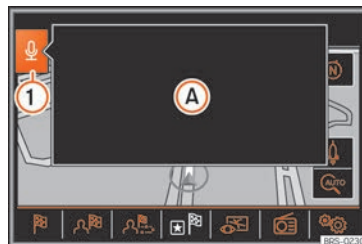

Fig. 181 Voice control: indication of the help menu elements that can be pronounced.
- Speak the commands when the audio and audio signals have finished playing, and the symbol  **Fig. 181 1** is displayed on the screen.
A help menu is displayed with the most important orders in the active mode at the time (e.g. Navigation) »» **Fig. 181 A**. Other elements that can be spoken are shown in red on the corresponding screen »» **Fig. 181**. The help menu indication can be activated and deactivated in the **Voice control settings** menu »» page 184.